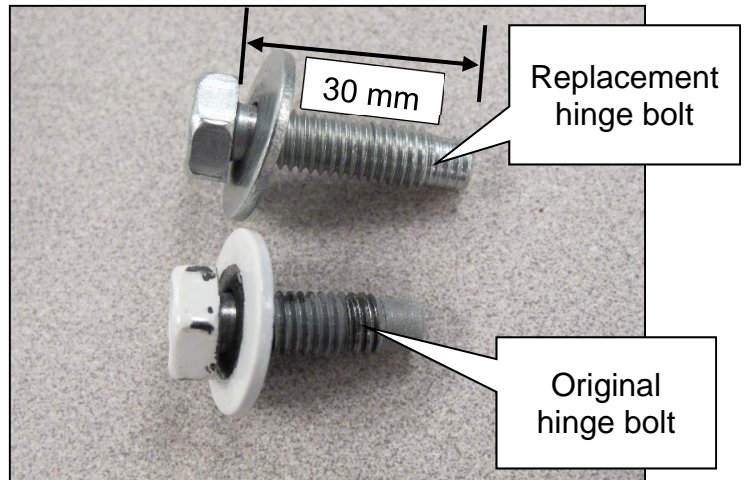

Figure 3
4. Verify the replacement hinge bolt is 30 mm (1.18 in) long from the bottom of the head to the end of the hinge bolt (Figure 3).